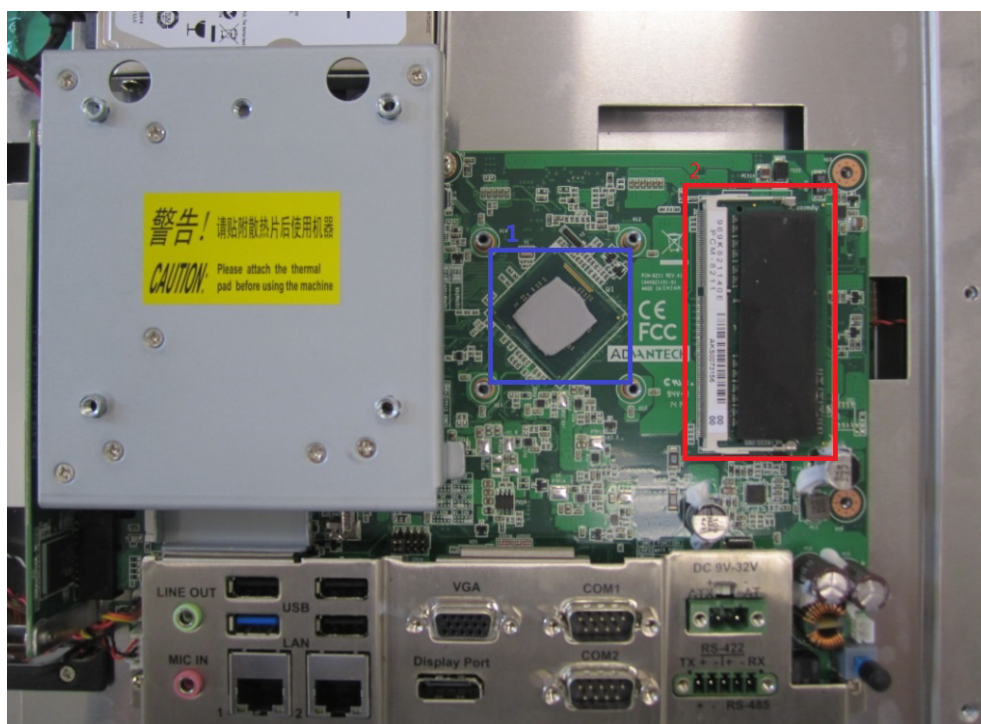

Figure 2.9
- Insert the memory card into the slot (highlighted in the red square in Fig. 2.9). Retrieve the thermal pad provided in the accessory box and install it directly atop the memory card and CPU. Then replace the heatsink.